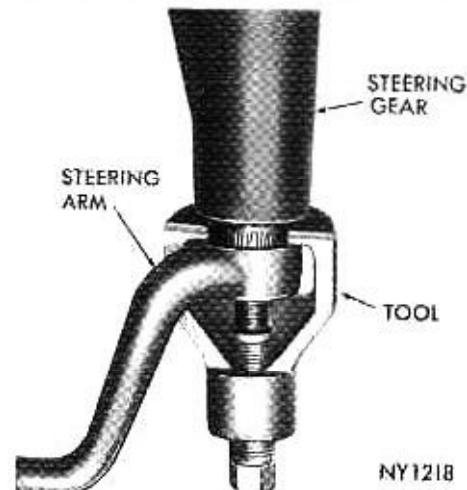

Fig. 4—Removing Steering Gear Arm
- (1) Remove steering arm nut.
- (2) Disconnect steering gear arm from sector shaft with Tool C-3646 (Fig. 4).